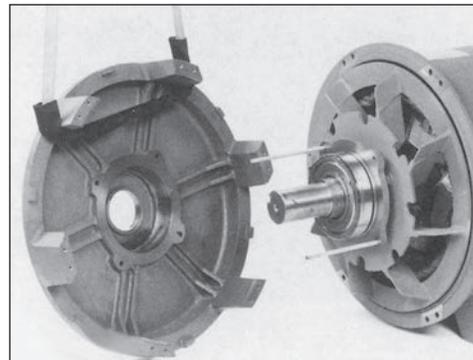
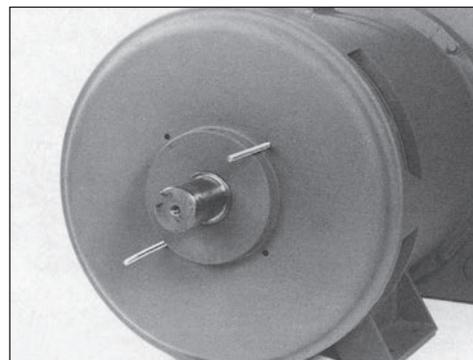
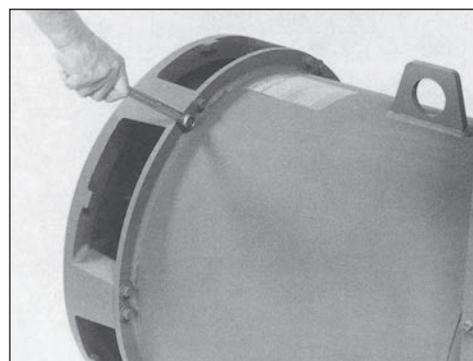

Figure 6-57
Figure 6-58
Figure 6-59
- b. For two-bearing generators, insert two guide pins in the rear bearing lock holes (figure 6-57). Fill the grease cavity of the drive end bracket 1/3 to 1/2 full of Mobil® Polyrex® EM grease (or equivalent - see page 17). Assemble all grease plugs in the bracket. Mount the bracket on the bearing and guide the bearing lock pins through the bracket holes (figure 6-58). Align the drive end bracket and mount with the capscrews (figure 6-59). Insert two capscrews with lockwashers into the bearing lock and tighten. Remove the guide pins and replace with the remaining two capscrews with lock washers. Torque bearing capscrews to 25 ft-lb (34 N-m). Torque bracket mounting capscrews per specifications given in section 12.